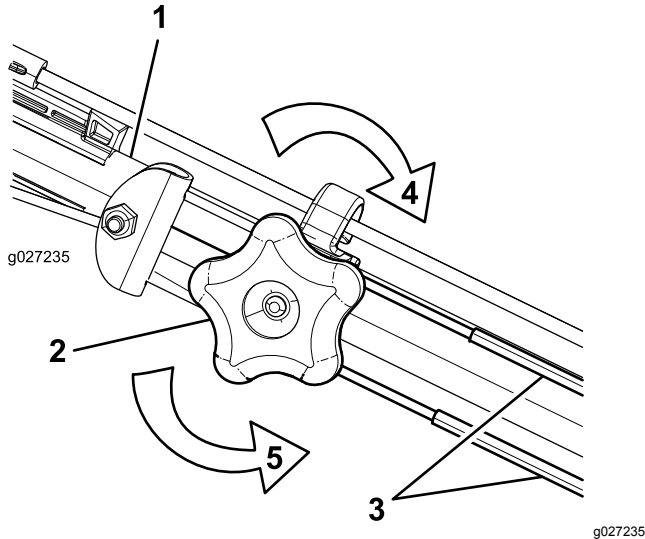

Figure 31
1. Turn the adjustment knob counterclockwise to loosen the cable adjustment (Figure 31).
2. Adjust the tension on the cables (Figure 31) by pulling them back or pushing them forward and then holding them in that position.